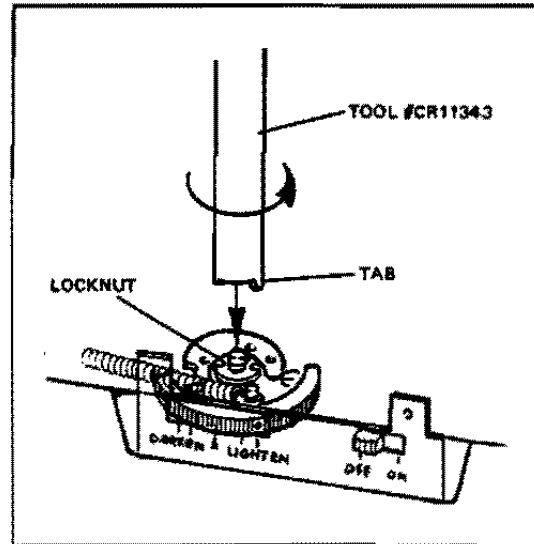

FIG. 4-25 LOOSENING THE ADJUSTMENT NUT
1. Turn the "Darken-Lighten" wheel to full LIGHTEN. Fit the tabs of tool CR11343 in the slots of the locknut and rotate the tool counterclockwise until the locknut is loose (Figure 4-25).